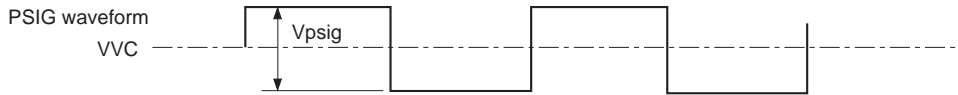

Fig. 1
*4 Input video and uniformity improvement signals should be input the voltage amplitude symmetrical to V_VC as shown in Fig. 1.